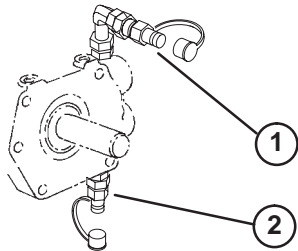

Figure 45
The test ports (Fig. 45 & 46) are used to test the hydraulic circuits. Check all pressures when engine is at full speed and hydraulic oil is at normal operating temperature. Contact your local Toro distributor for assistance.
1. Traction Forward and Reverse (Fig. 45) (behind wheel motors) has a normal relief setting of approximately 5300 psi and 50 – 150 psi charge pressure. Use a gauge with 7500 – 10,000 psi full scale rating.